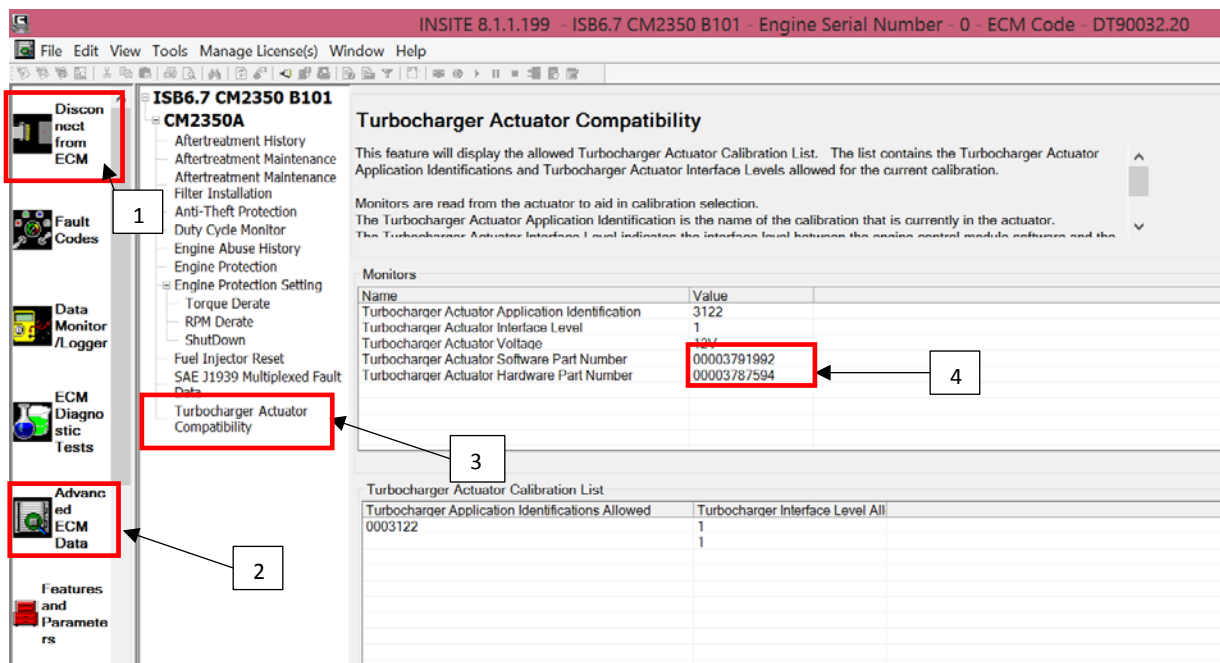

Figure 1. Turbocharger Actuator Hardware Part Number Screen
1. Connect to ECM [1]. Figure 1.
2. Select Advanced ECM Data Button [2]. Figure 1.
3. Click “Turbocharger Actuator Compatibility” [3]. Figure 1.
4. Document both the 7 digits of Turbocharge Actuator Hardware and Software Part Number [4]. Figure 1. This hardware number is needed later in the procedure.
7. Disconnect From ECM [1]. Figure 1.